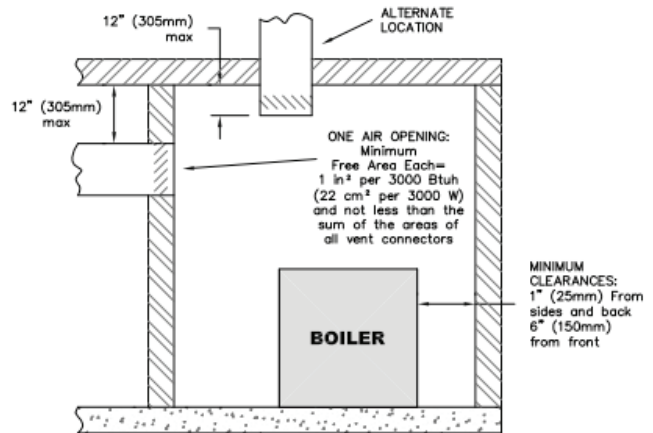

Figure 1.7: Air Openings – All Air from Outdoors
- b. One Permanent Opening Method: Provide one permanent opening beginning within 12 inches (305 mm) of the top of the space. The opening shall communicate directly with the outdoors, communicate through a vertical or horizontal duct, or communicate with a space that freely communicates with the outdoors. The opening shall have a minimum free area of 1 in² per 3000 Btu/hr. of total rated input for all appliances in the space and not less than the sum of the cross sectional areas of all vent connectors in the space. The gas-fired equipment shall have clearances of at least 1 inch (25 mm) from the sides and back and 6 inches (150 mm) from the front of the appliance. See Figure 1.7 for this arrangement.